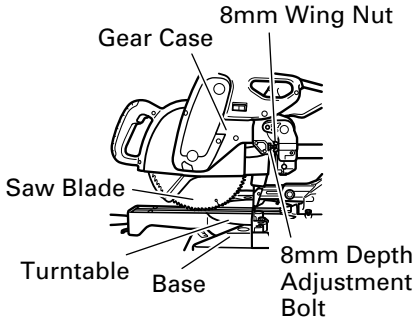

Fig. 10-a
Check that the saw blade can be lowered 12mm to 13mm (15/32" to 1/2") below the table insert as shown in Fig. 10-a.
To adjust the lower limit position of the saw blade, follow the procedures (1) to (4) indicated below. (Fig. 10-b)
NOTE: When cutting a workpiece exceeding 88mm (3-15/32") in height in right-angle cutting or 56mm (2-7/32") in left bevel angle cutting or 31mm (1-7/32") in right bevel angle cutting, adjust the lower limit position so that the base of the motor head (see Fig. 10-a) will not come in contact with the workpiece.
To adjust the lower limit position of the saw blade, follow the procedures (1) to (3) shown in Fig. 10-a.
(1) Loosen the 8mm wing nut so that the 8mm depth adjustment bolt can be turned by hand.
(2) Lower the motor head, and thru the 8mm depth adjustment bolt by hand and make adjustments so that there can be a clearance of 2mm to 3mm (3/32" to 1/8") between the lower limit position of the motor head and the top of the workpiece at the saw blade's lower limit position (where the head of the 8mm depth adjustment bolt contacts the gear case).
(3) After adjustment, turn the 8mm wing nut until it contacts the Hinge (see Fig. 10-b), and fully tighten it.